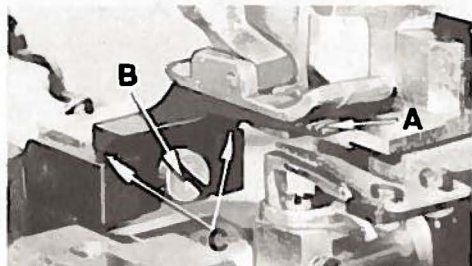
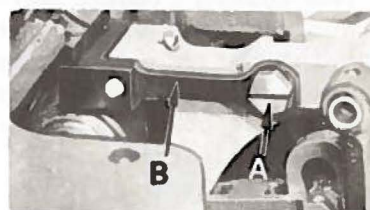

Fig. 8
Fig 9
Set the feed dog (A, Fig. 8) so that there is equal clearance on all sides in the throat plate. The tips of the teeth should extend the depth of a tooth above and be parallel in both planes with the top of the throat plate at high point of travel. This can be accomplished by loosening the feed dog mounting screw (B), raise or lower screws (C) as required to correct the height and parallelism across-the-line-of-feed. Retighten screw (B). Loosen screw (A, Fig. 9) and move the feed bar tilt extension (B) up or down as required to correct the parallelism of the feed dog to the throat plate in-the-line-of-feed. Retighten screw (A).